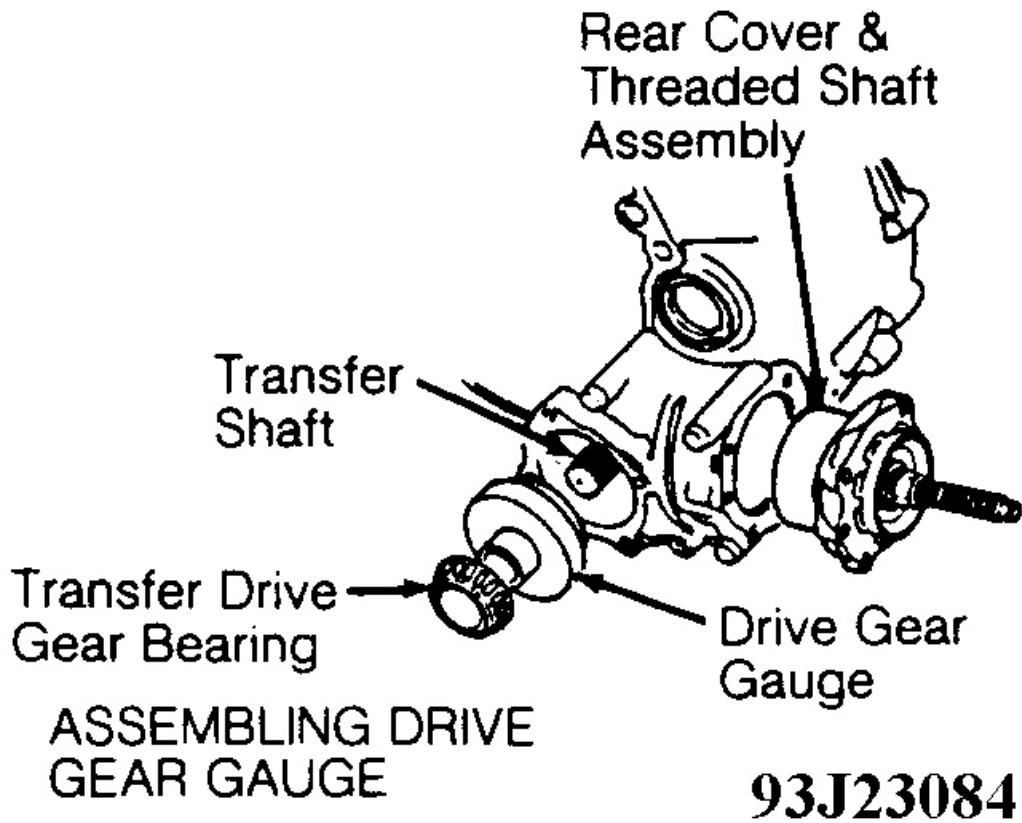

Fig. 47: Assembling Drive Gear Gauge
8. Install rear cover and threaded shaft assembly in transfer housing. See **Fig. 47** . Using puller, remove bearing from transfer drive gear (if not previously removed). Lubricate transfer drive gear bearing with oil.
9. Ensure drive gear thrust shim is not installed on transfer shaft. See **Fig. 42** . Install transfer drive gear bearing and Drive Gear Gauge (07973-SD90500) in transfer housing. See **Fig. 47** . If necessary, pull rear cover and threaded shaft assembly outward slightly to allow drive gear gauge to fully seat.
10. Install left side cover without bolts. To determine driven gear thrust shim thickness, use feeler gauge measuring in millimeters. Measure clearance between rear cover and transfer housing while pushing inward on threaded shaft. See **Fig. 47** . Record clearance.
14. To determine transfer thrust shim thickness, use feeler gauge measuring in millimeters. Measure clearance between left side cover and transfer housing while pushing inward on left side cover. See **Fig. 47** . Record clearance.